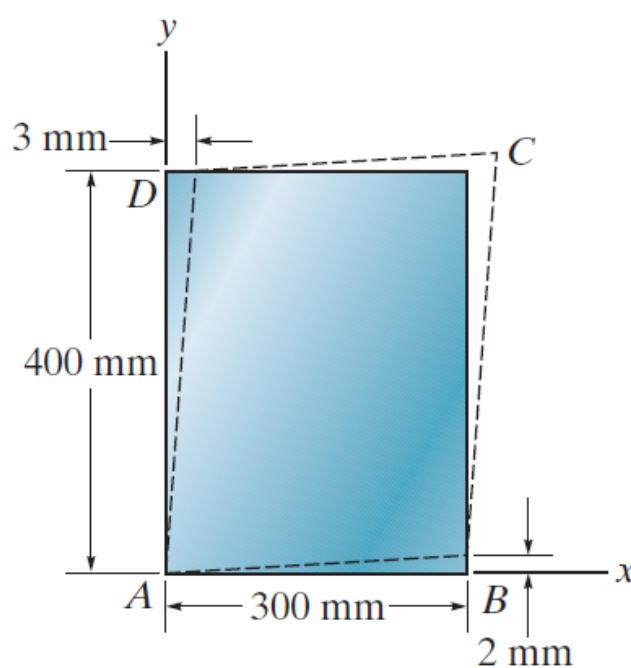

Fig. 4.1
4.1 The piece of rubber is originally rectangular and subjected to the deformation shown by the dashed lines. Determine (a) the average shear strain at A and (b) the average normal strain along the diagonal DB and side AD (Fig. 4.1).